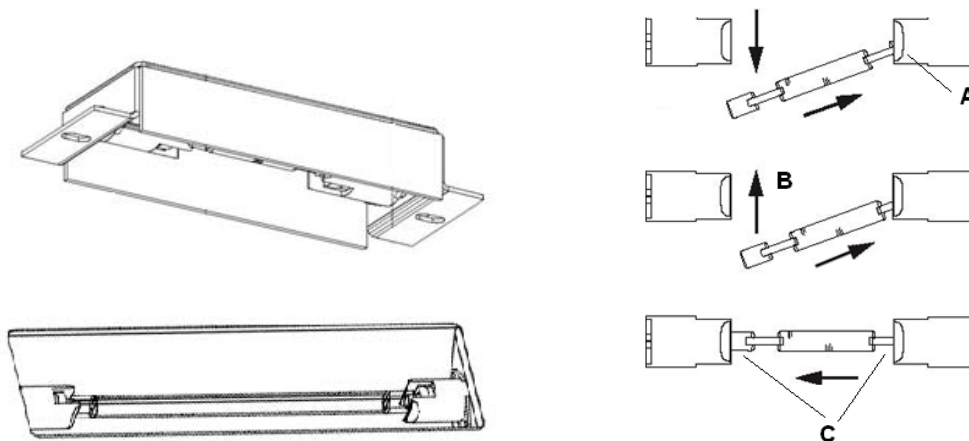

Figure 20
3. Remove the broken lamp by moving it in the length-direction of the lamp holder (see Figure 20).
4. Install the new lamp (230 V – 500 W). First press one side of the lamp into the lamp holder (A). Press lamp in its correct position (B) and use its spring pressure to make contact with the other terminal (see Figure 20).
5. Make sure the lamp is correctly clamped between the two terminals (C). If this is not the case, the lamp can move freely along its length-direction, until it is fixed into its terminals.